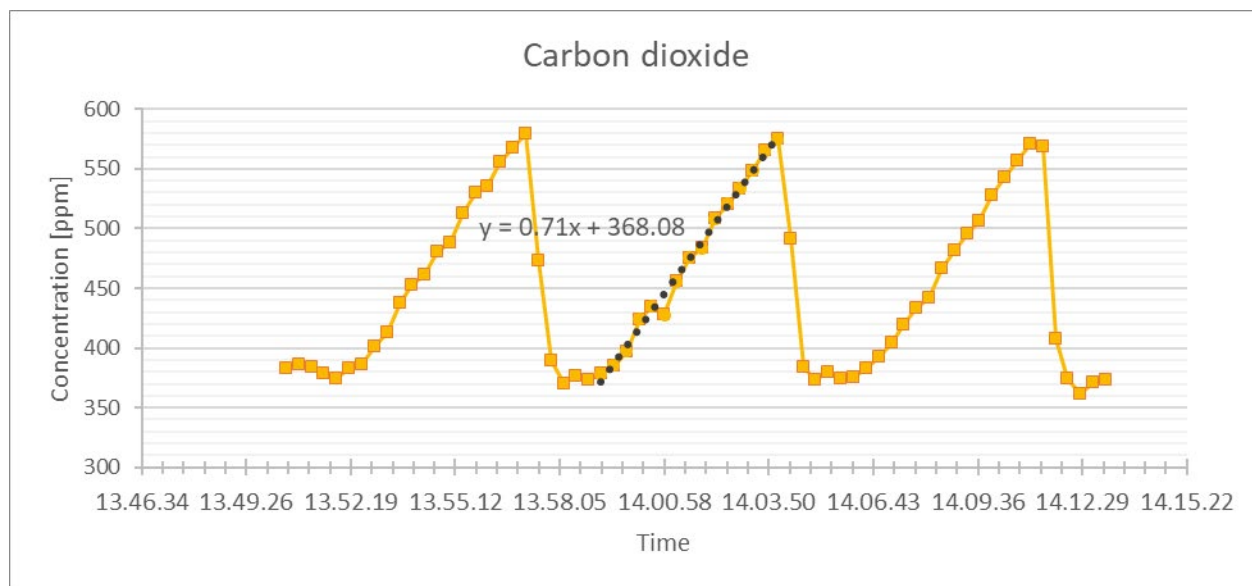

Figure 2. CO₂ soil flux data with a linear regression fitted to CO₂ concentration
4. The slope of the regression shown in figure 2.